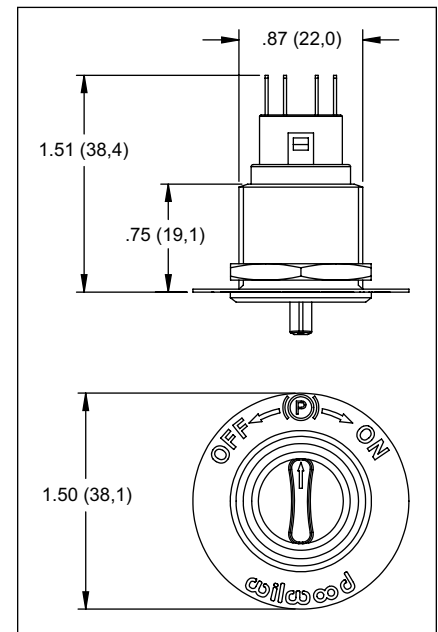

Figure 2. Control Switch
- EPB CONTROL SWITCH - Mount the EPB switch in an easily accessible location within arm's reach of the driver. The switch mounts to a panel with a .875" diameter hole. See Figure 2 for mounting dimensions.